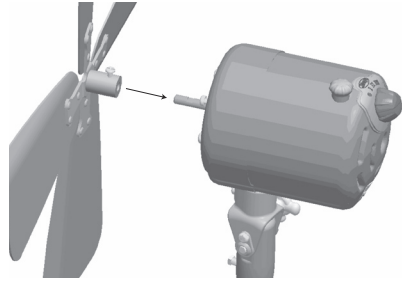

FIGURE 10
23. Slide the Blade Assembly Sleeve over the Motor Shaft, ensuring the Blade Assembly Screw is positioned over the Flat Portion of the Motor Shaft. See Figure 10. Tighten the Blade Assembly Setscrew so that it seats against the Flat Portion of the Motor Shaft. gently pull the Blade Assembly to ensure it is secure on the Motor Shaft.
NOTE: For clarity, the Back Grille has been removed from Figure 10 to show the Blade Assembly Sleeve/ Motor Shaft installation.